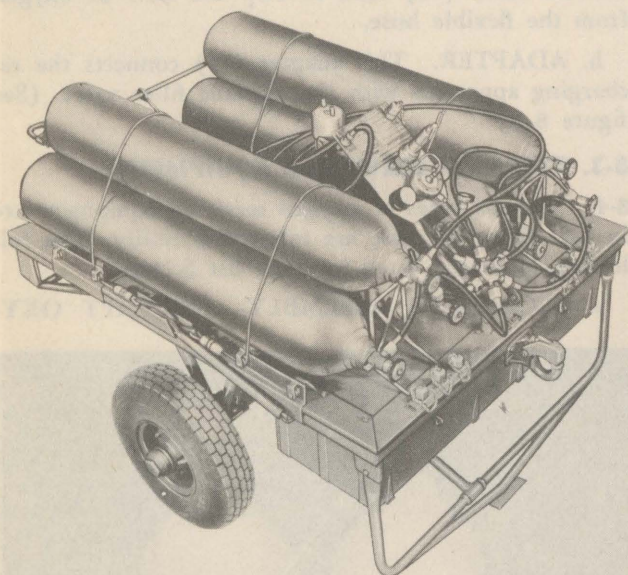

Figure 8-3. Type E-2 Oxygen Servicing Trailer
c. TRAILER-OXYGEN SERVICING, TYPE E-2, SPECIFICATION No. 30168. (See figures 8-3 and 8-4.) For most purposes this six-cylinder trailer is the most suitable type of oxygen servicing equipment, both low- and high-pressure. Detailed information will appear in T.O. No. 19-25-85. The A-5 purifier and the filter on this trailer are in the line leading from the cylinders to the pressure reducing valve.